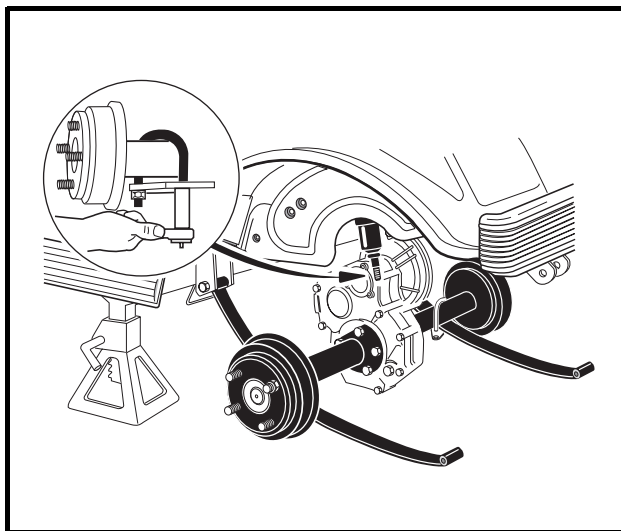

Figure 16-10 Leaf Springs
13. Remove the U-bolts attaching the transaxle to the leaf springs (**Figure 16-10, Page 16-6**).